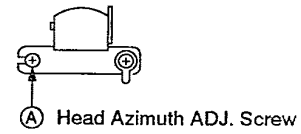

Fig. 4
- (1) Insert Test tape STD - 331E into Deck I , in play mode.
- (2) AC milli-voltmeter connect to JK501 Speaker terminal on the MAIN PCB ASSY.
- (3) Adjust the left side screw (A) for the maximum output. (Fig. 4)
- (4) Insert Test tape STD - 331E into deck II .
- (5) In play mode.
- (6) Adjust the left side screw (A) for the maximum output. (Fig. 4)